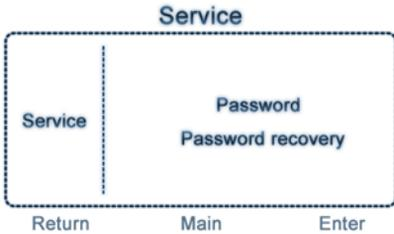

Figure 7
1. Proceed through main interface *Menu*Other*enter password*press “Enter” key*Service Set*press “Enter” key to initiate the setting, which is shown in Figure 7.
- A. Select “Password recovery” as shown in Figure 7 and then press “Enter” key to enter the interface as shown in Figure 12; press the left key “Cancel” or the right key “Enter” to cancel this operation or confirm restoration of the initial password.